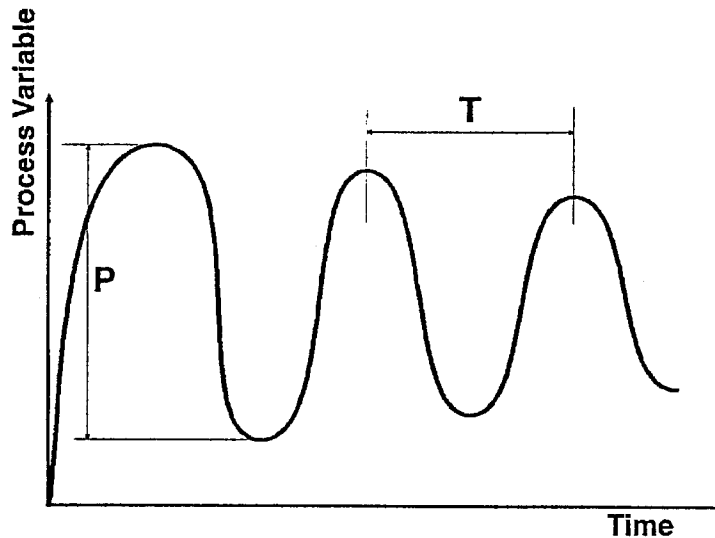

Figure 4-1 Tuning Procedure - OP1 Only Fitted
(b) The cycle time (T) of this oscillation in minutes (see Figure 4-1).